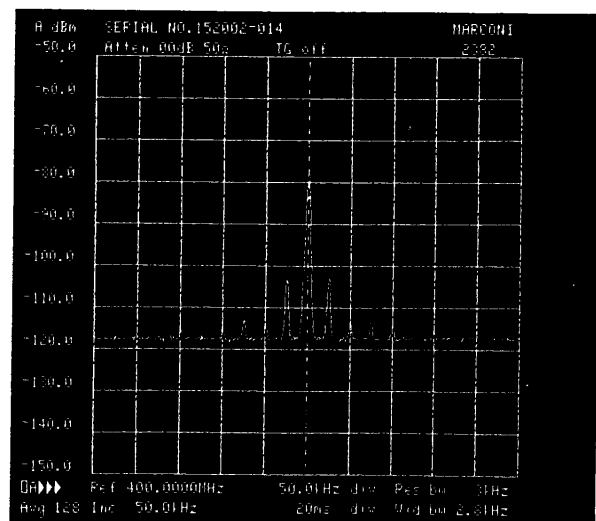

Fig. 3-16 Low level signal measurement by video averaging
The above method for measuring low level signals requires a very slow sweep to achieve results. The second method using video averaging allows a more instantaneous display and changes in noise smoothing can be seen almost immediately. Set the analyzer controls so that REF LEVEL is 0 dBm, VERTICAL scale is 10 dB/div and RESOLUTION BANDWIDTH and SWEEP TIME are at AUTO. Press the display A VIDEO AVG key and full information on the use of this function is displayed on the screen. Using the DATA keypad, key into the instrument the number which gives the required sweeps to be averaged. The higher the number of sweeps the greater the smoothing but the time taken is longer. The maximum number of sweeps possible is 128 (2⁷). The key-light flashes and as the sweeps are completed they are counted and shown in inverse video at the bottom of the screen. The reduced level of noise is apparent and upon completion the key-light changes to steady and the low level signal can be seen and measured as required (refer to Fig. 3-16). If VIDEO AVG has been selected in error it can be cleared by operating DATA key 0, otherwise to erase a completed or part completed entry, press the VIDEO AVG key again.